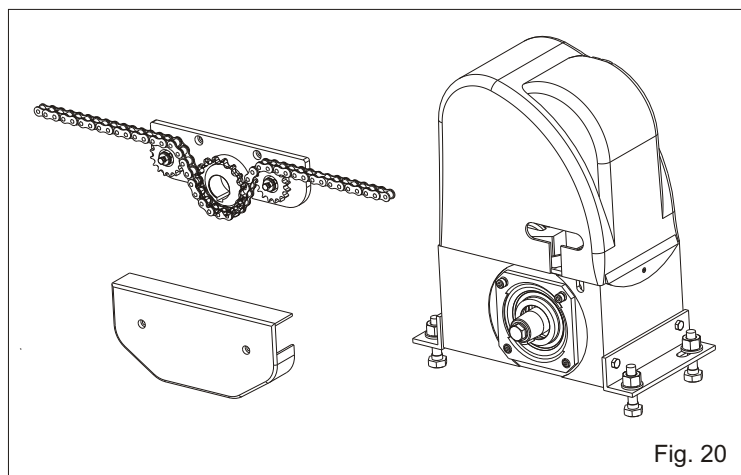

Fig. 20
The assembling of the main parts which include the whole chain automation is illustrated in Fig. 20.
10.2. Install the chain making it pass through the pinion group as in Fig. 20.